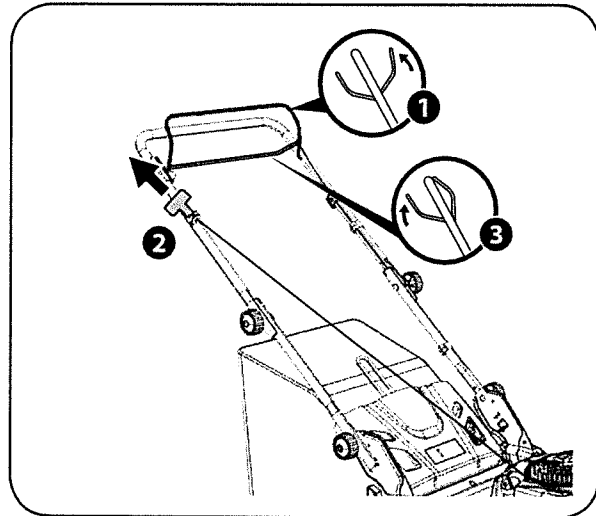

Figure 11
1. Standing behind the mower, pull the blade control handle back against the upper handle (Figure 11).
2. While holding the blade control against the upper handle, grasp the recoil starter handle and pull rope out with a rapid, continuous, full arm stroke (Figure 11). Keeping a firm grip on the starter handle, let the rope rewind slowly. Repeat until engine starts. Let the rope rewind each time slowly.
1. Hold the blade control against the upper handle (Figure 11).
2. Start the engine (Figure 11).
3. Once the engine is running, pull and hold the drive control handle together with the blade control handle to propel the mower forward (Figure 11). Once pressure is released from the drive control it will return to the neutral position and the drive will be disengaged.